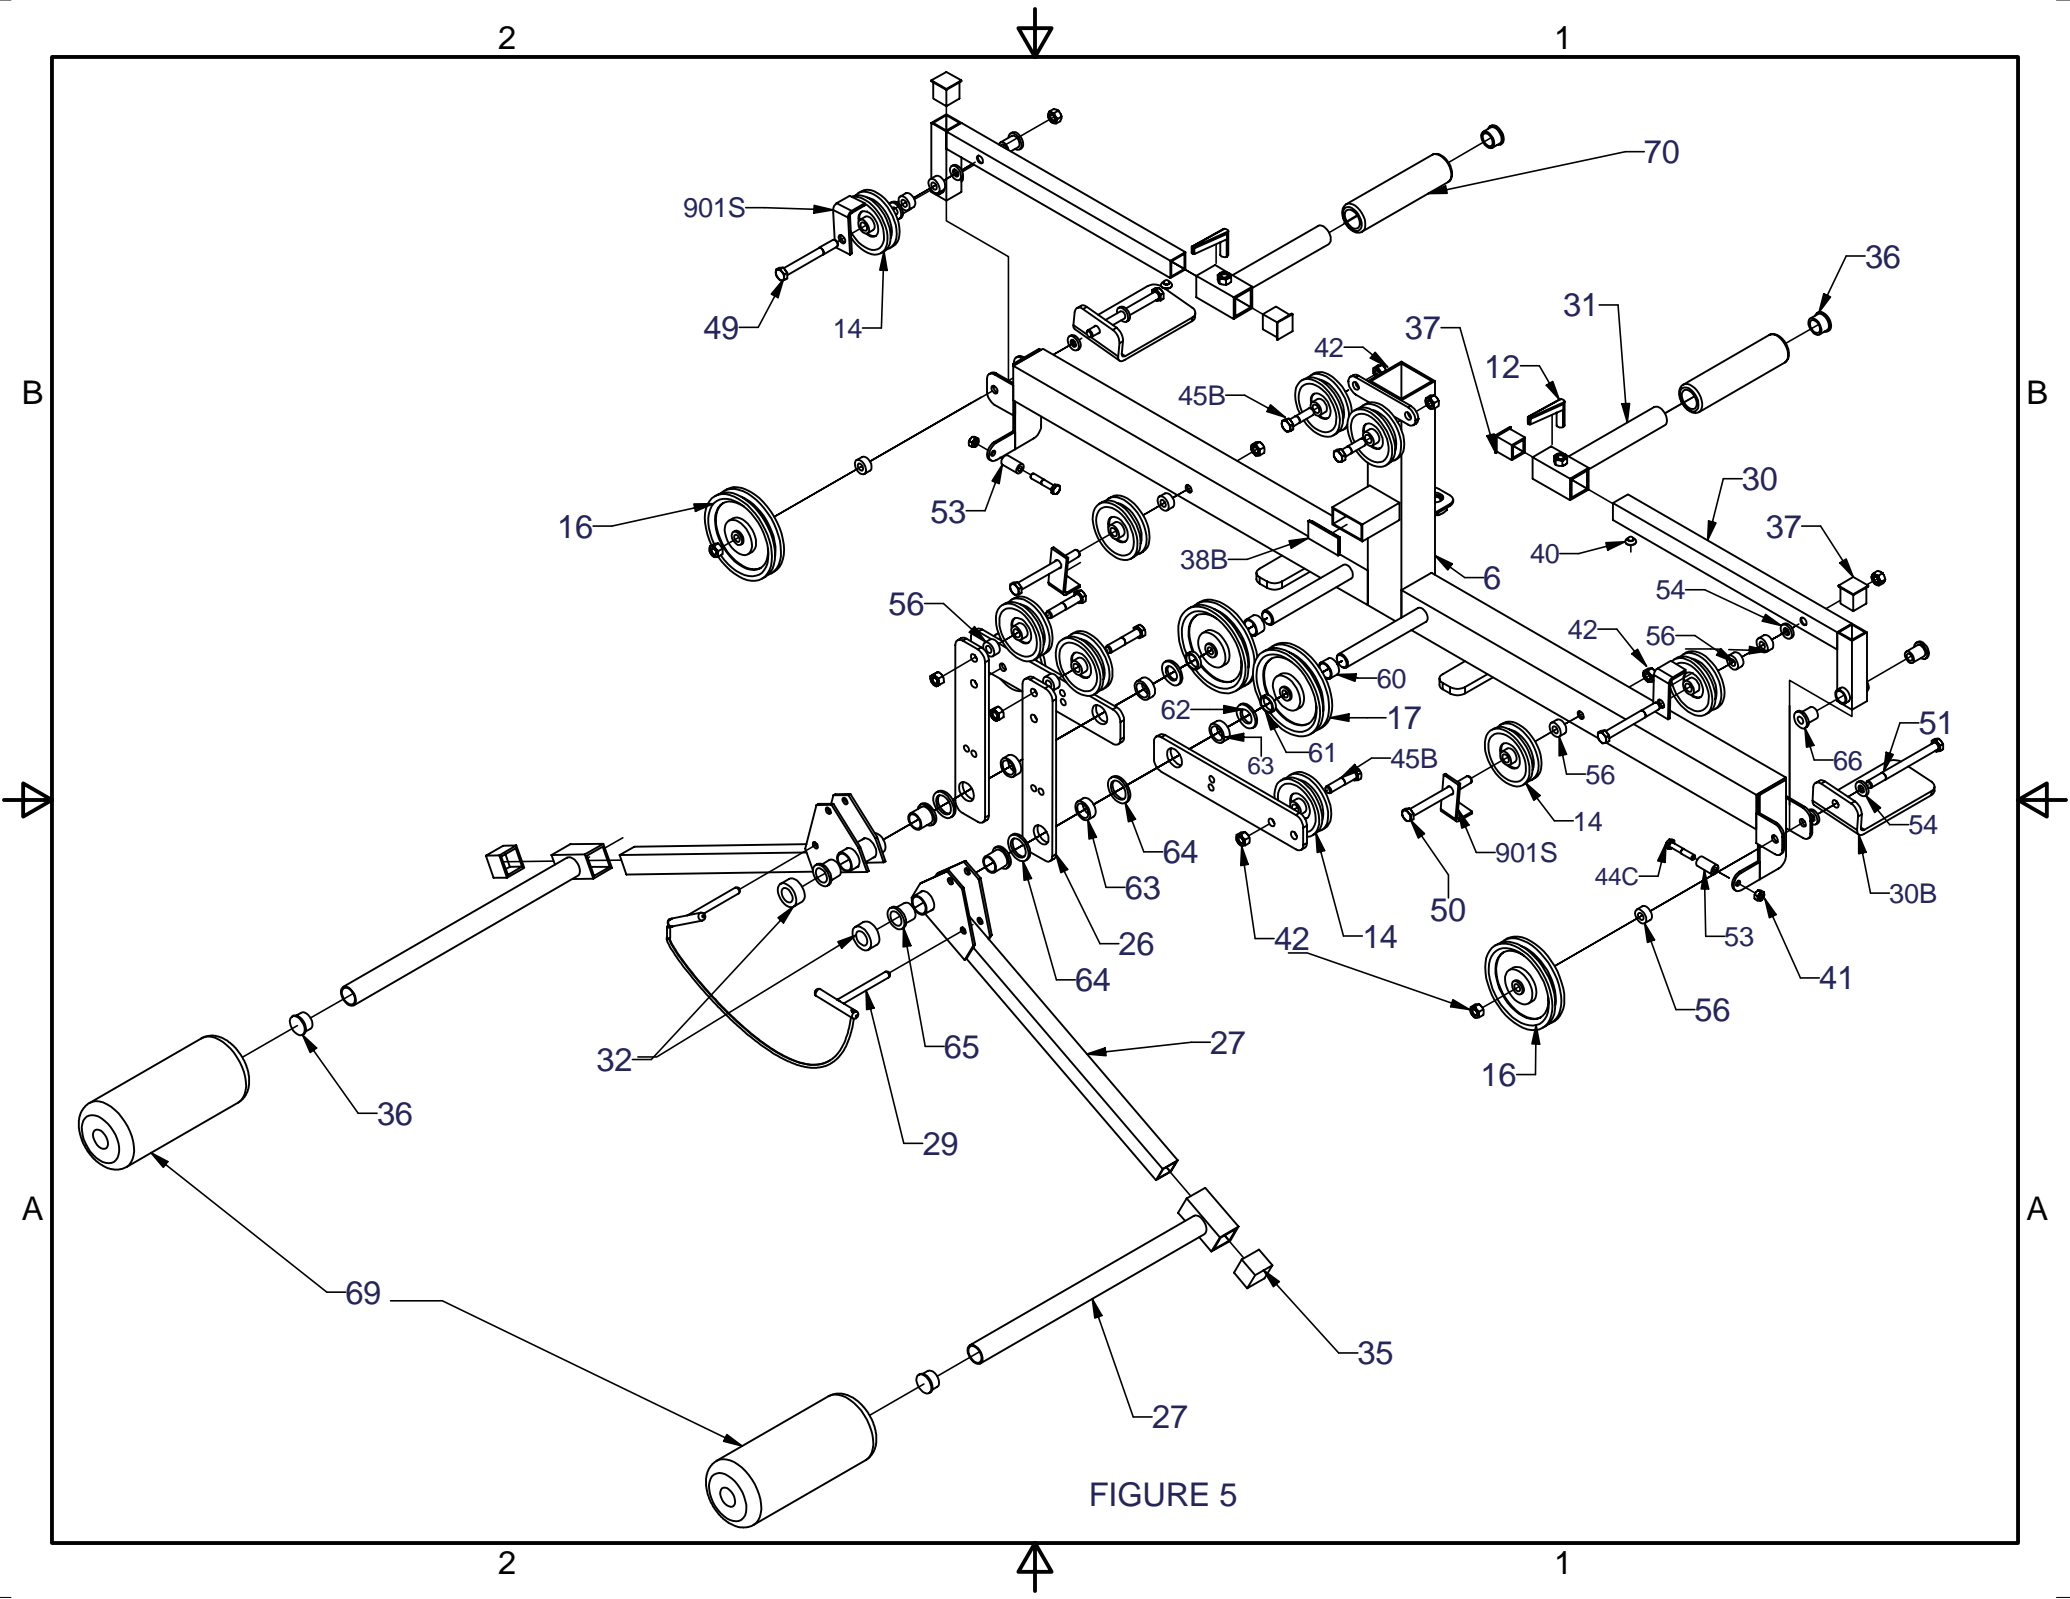

FIGURE 5
C: Deltoid/Lat Assembly (Figures 5)
2. Install the Swing Plates (26). There are 4 identical Swing Plates (26), 2 will be mounted horizontally, and 2 will be mounted vertically. Carefully follow the steps below:
- a. Slide one Spacer (61) over each shaft and push up against each 4 1/2# Pulley (17). Slide Spacer (62) over each shaft and Push up against Spacer (61).
- b. Slide Bronze Bearing (63) over each shaft and push up against Spacer (62).
- c. Attach one Pulley (14) to each Horizontal Swing Plate pair (26) with Spacer (54) between Pulley and Plate using a 3/8” Hex Bolt (45b) and Nut (42).
- d. Slide one Horizontal Swing Plate (26) over each Bronze bearing (63) and push up against Spacer (62). Swing Plates will now pivot on Bearing (63). They should rest in position on the stop.
- e. Slide Spacer (64) over each shaft and push it up against Horizontal Swing Plate (26).
- f. Attach one Pulley (14) to each Vertical Swing Plate pair (26) with Spacer (56) between Pulley and Plates. Use 3/8 Hex Bolt (47) and Nut (42).
- g. Slide one pair of Vertical Swing Plates (26) over each Spacer (63) and push up against the Spacer (64). The Swing Plates should now pivot on Bearing (63) and should rest in a vertical position against stop.
3. Insert Bearings (65) into tubes on Deltoid/Lat Arms (27). Slide Deltoid/Lat Arm (27) over each shaft and push up against vertical Swing Plate (26). Insert T-pin (29) through lower hole of Pin Bracket and into hole in Horizontal Swing Plate (26). This will allow Deltoid/Lat Arm (27) to rest in sloping down position.
4. Slide Shaft Collar (32) over end of each shaft and tighten the set screw with a 5/32 Allen wrench. This will secure above assembly.
5. Mount 4 more Pulleys (14) onto Deltoid/Lat Slider (6) as shown in Figure 5, using Spacers (54, 56) and Hex Bolts (49, 50).
6. Slide Deltoid/Lat Handle (28) onto Deltoid/Lat Arm (27).
7. Push Cap (35) onto end of each Deltoid/Lat Arm (27).
D: Curl Assembly (Figure 5)
1. Attach Pulley (14) to Curl Arm (30) with Spacers (56 & 54) as shown in Figure 5.
2. Insert Bearings (66) into tube on Curl Arm (30). Mount Curl Arm (30), Pulley (16), Spacer (56) and Curl Elbow
3. Pivot Bracket (30.b.) with Spacers (54) onto Deltoid/Lat Slider (6) using 3/8 Hex Bolt (51) and Nut (42) as shown.